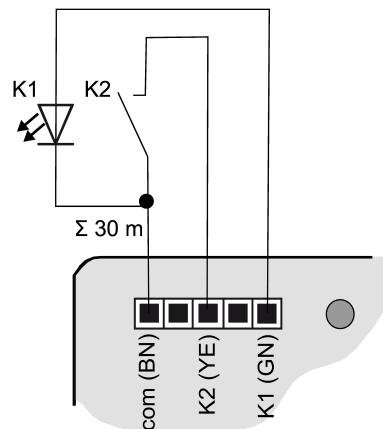
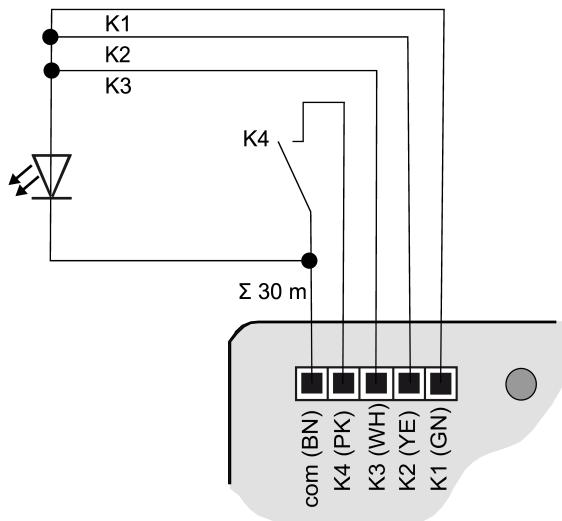

Figure 3: Connection example: push-button interface 2-gang
Figure 7: Connection example with outputs switched in parallel
- Connect push-buttons, switches, contacts, LED or NTC to enclosed connecting cables (4) according to the connection examples; (see figure 3) to (see figure 7). The connection examples show the use with inputs and outputs.
**i** To increase the output current, outputs can also be switched parallel to each other with the same parameterization; in the example here, (see figure 7) K1-K3 are switched in parallel.